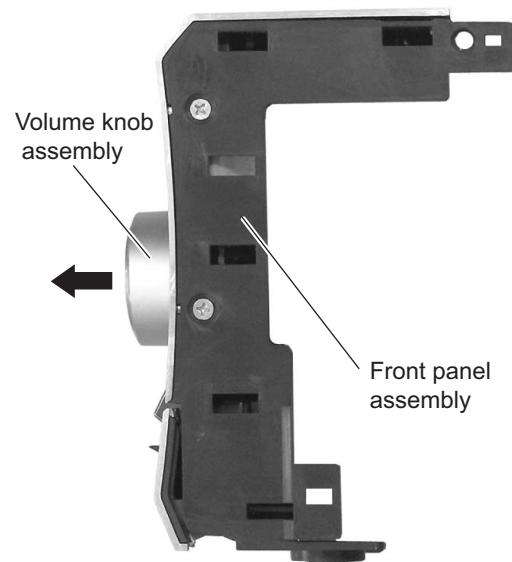

Fig.24
(See Figs.24 to 26)
- (1) From the front side of the main body, pull out the volume knob assembly in the direction of the arrow. (See Fig.24.)